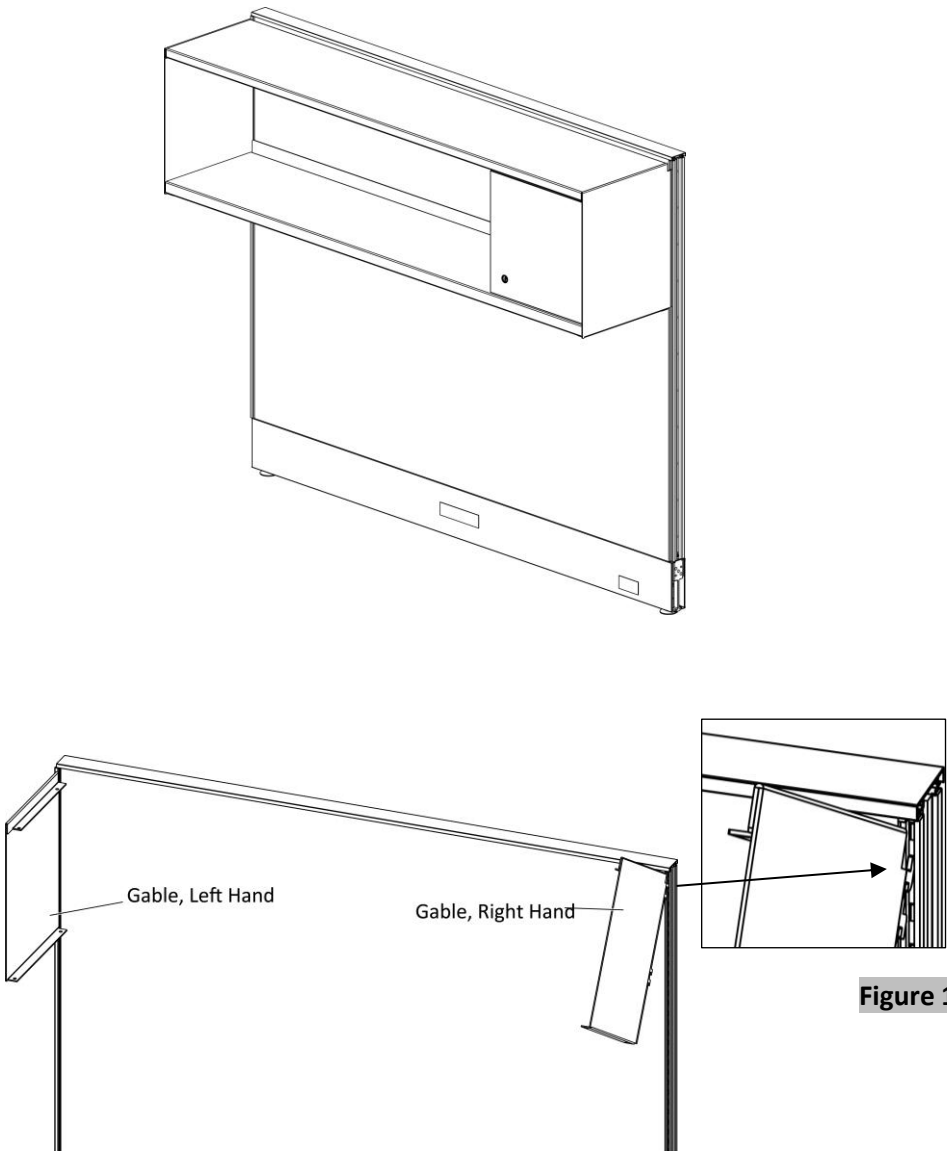

Figure 1
- 2. Place the upper hooks at their desired location into the slotted frame channel; lower the gable and place the other hooks then release them down and it will be engaged, (Figure 1).